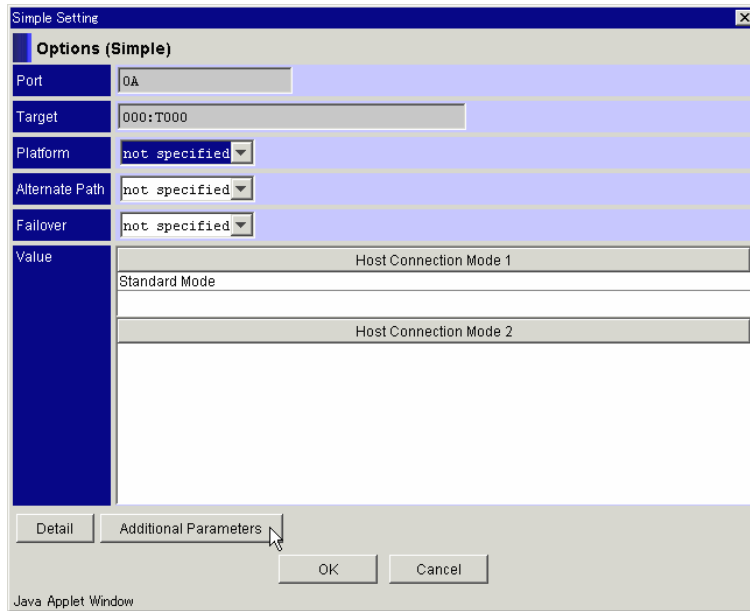

Figure 8.2 Simple Settings Dialog Box
5. As necessary, select **Platform**, **Alternate Path**, and **Failover**. The combination, which can be chosen for every platform, is limited. See Figure 8.2.